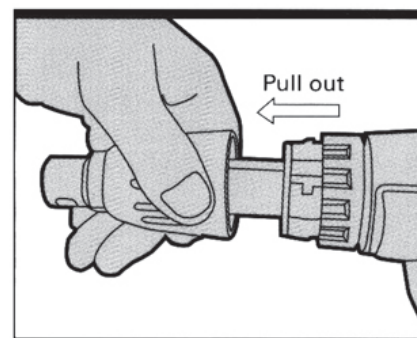
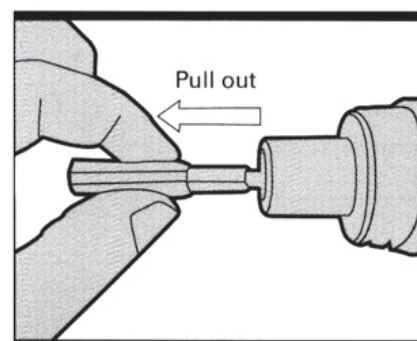

Fig 6
Fig 7
5. Changing bit holder (see fig6, fig7, fig8)